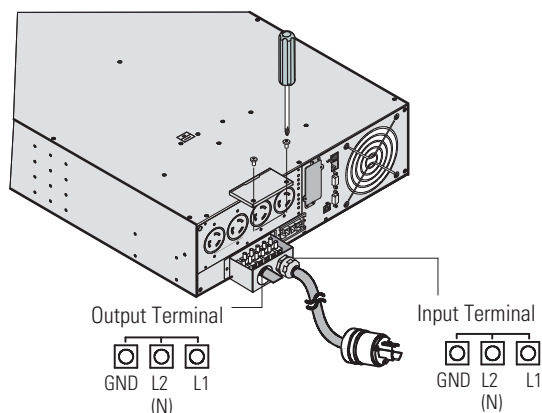

Figure 22. Installing the Input and Output Cables
4. Connect the three wires to the output terminal block (see Figure 22).